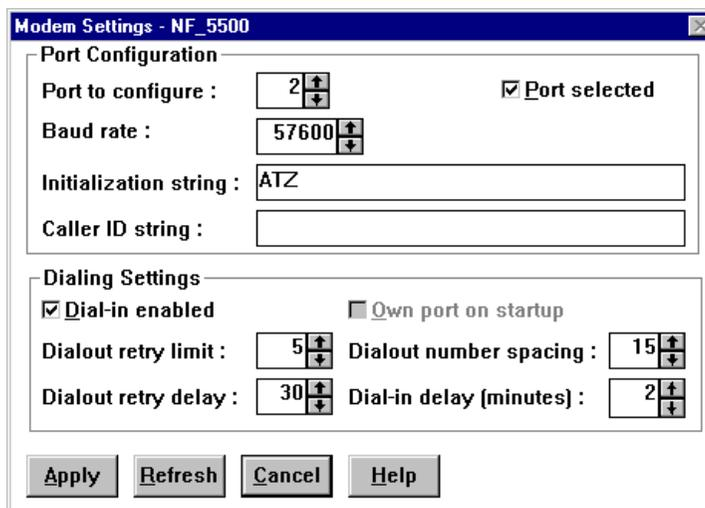

Figure 197. ASM Processor Modem Settings
3. Click **Modem**. Figure 197 appears: